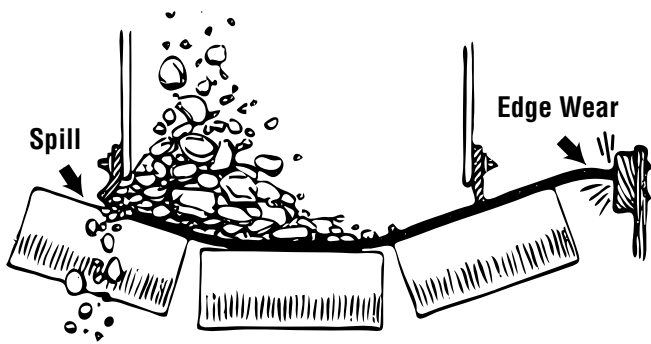

Fig. 4
- 3) Once the belt is trained empty, start with a light load and gradually increase to the capacity conveyor was designed to handle. A properly trained empty belt will run true if loading is uniform and to the center of the belt. Check chutes to see if material is being directed onto the center of the belt. An off-center load will affect the belt alignment in that the belt will run off center, will wear the belt edges and spill material on sides. See Figure 4. The desired condition is to load the material centrally on the belt at the same speed and in the direction of belt travel with a minimum impact on the center of belt.